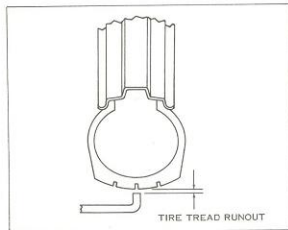

Figure 2-27. Checking Tire Radial Runout
- Check runout by turning wheel on axle, measuring tread runout (see Figure 2-27).